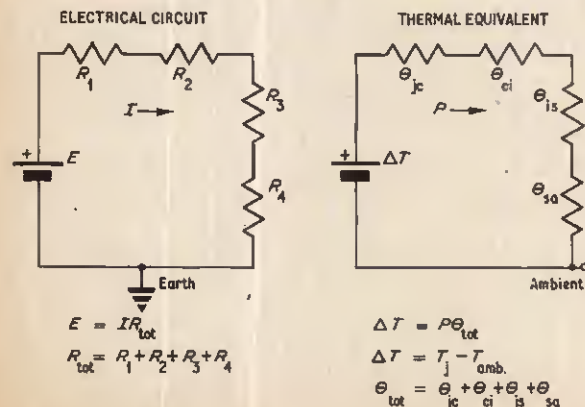

Fig. 2. Electrical analogue to thermal circuit
Consideration of the electrical circuit in Fig. 2 reveals that, in order to produce a flow of electrical charge (coulombs) from one point to another, a difference in electrostatic pressure (voltage) must exist. The rate of flow of charge may be given in coulombs per second, or amperes. Whatever impedes this flow is called electrical resistance (R) and is measured in ohms (Ω).